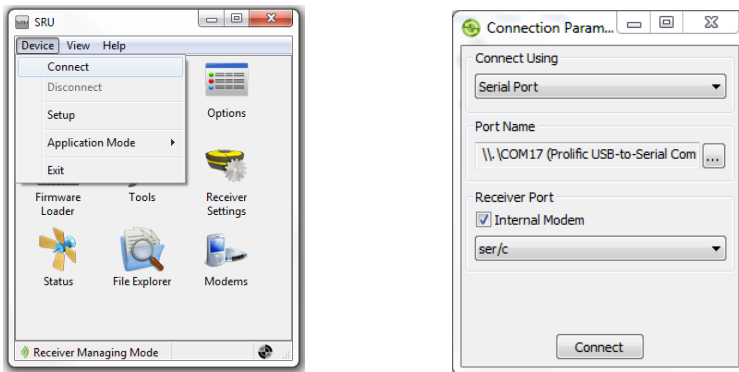

Figure 2-3. Connecting the Receiver and Computer Controller via RS232 Serial Cable
5. Click **Device** ► **Connect**. The *Connection Parameters* dialog box displays (Figure 2-3). To establish a connection between the computer/controller and the receiver, press the **Connect** button. When detecting the receiver, the *Detecting Receiver* dialog box displays.
To set a connection with the GRX1 receiver, do not check mark the *External Receiver* box in the *Connection Parameters* dialog box (Figure 2-3 on page 2-4).